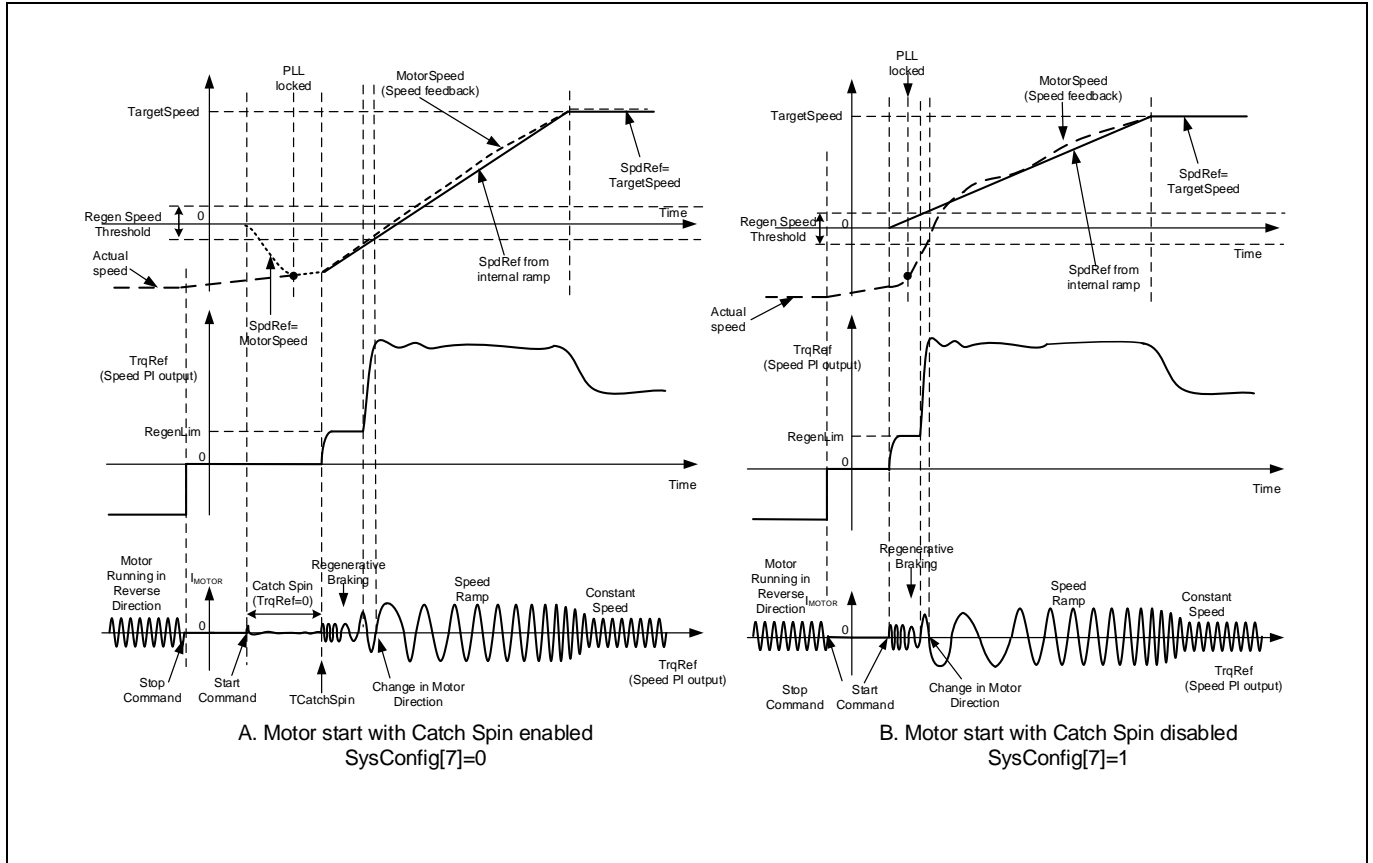

Figure 30 Reverse Catch Spin - Motor start with/without catch spin
If the motor is spinning in the opposite direction as desired, then the catch spin sequence is termed as ‘Reverse Catch Spin’. Figure 30 (A) shows an example of ‘Reverse Catch Spin’. In this example, at the start command, the motor is already spinning (in the opposite direction). During the catch spin sequence, no motoring current is injected. After the TCatchSpin time has elapsed, the motor is still spinning in opposite direction at a speed higher than Regen Speed Threshold (RegenSpdThr), thus an injected torque, limited by the value defined in RegenLim parameter, forces the motor to decelerate via regenerative braking. Once the speed of the reverse spinning motor falls below Regen Speed Threshold (RegenSpdThr), the injected torque is limited by MotorLim (RegenLim<=MotorLim). The injected torque forces the motor to come to a stop and start accelerating in the desired spin direction, following the speed ramp reference to reach the set target speed.
If catch spin is disabled, normal speed control starts immediately after the start command, without waiting for PLL to be locked. Usually the control would still be able to start a spinning motor, but motor speed may not increase/decrease seamlessly. As shown in Figure 30 (B), after the start command, the motor is still spinning at a speed higher than Regen Speed Threshold (RegenSpdThr), hence the injected torque limited by the value defined in RegenLim parameter, forces the reverse spinning motor to decelerate via regenerative braking. Once